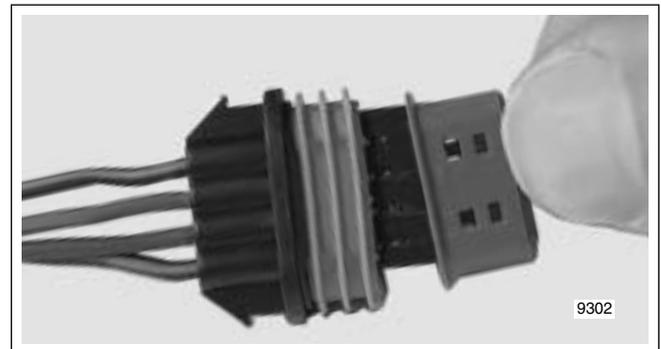

Figure 8-17. Remove Terminal Lock
3. Use a fingernail to pry colored terminal lock loose and then remove from mating end of socket housing. See Figure 8-17.
3. Install colored terminal lock onto mating end of socket housing. See Figure 8-17.